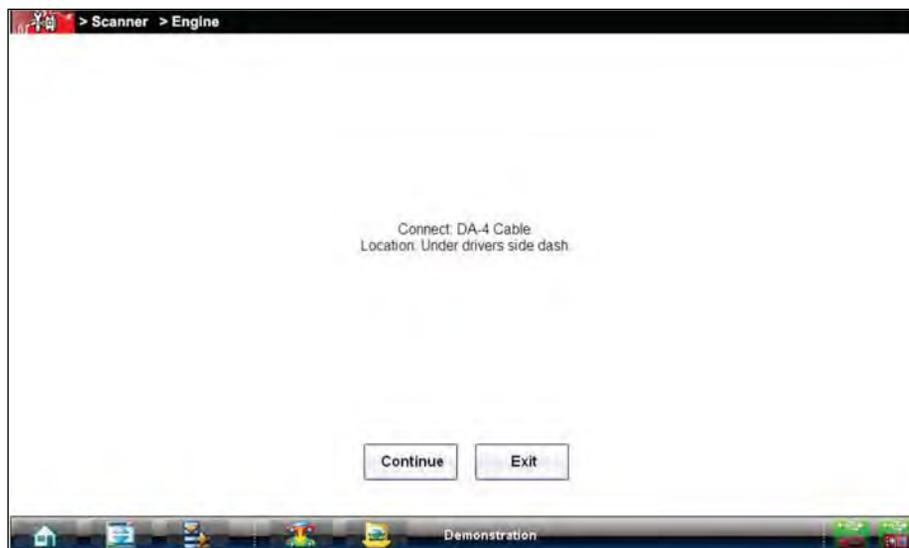

Figure 5-11 Vehicle connection data cable message
On-screen cable and adapter connection instructions are provided while using the Scanner and OBD-II/EOBD functions. The instructions may also include the location of the vehicle DLC (Figure 5-11). If required, additional connection information can be found in the appropriate vehicle communication software manual for the vehicle. Vehicle communication software manuals are available online, see the website information at the front of this manual
1. Follow the on-screen instructions for connecting to the vehicle (Figure 5-11).